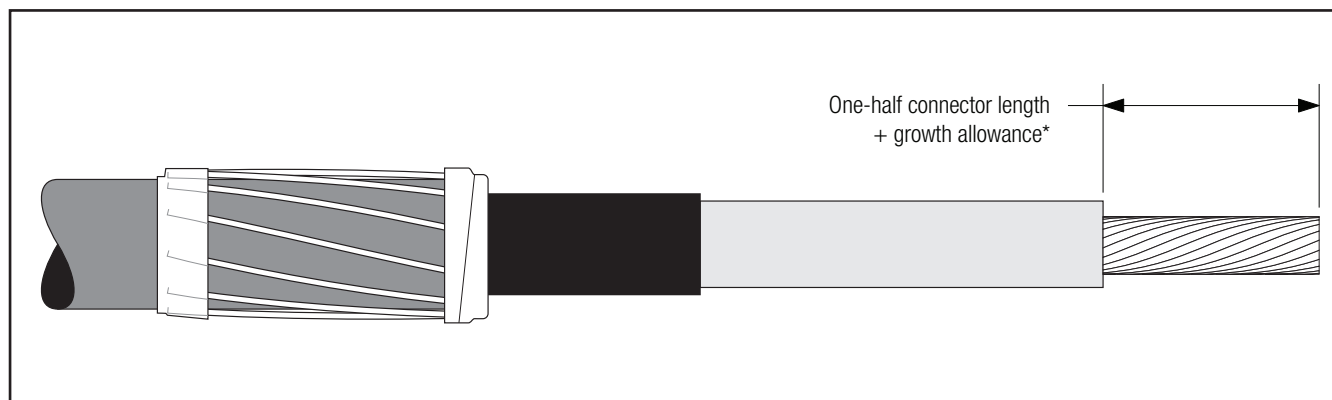

Figure 8
- 3.3 **If using a crimp type connector**, remove cable insulation for 1/2 connector length plus an allowance* for increases in connector length due to crimping. Insulation removal length shall not exceed 3 1/4" (83 mm) from conductor end. **Do not install connector now** (Figure 8).